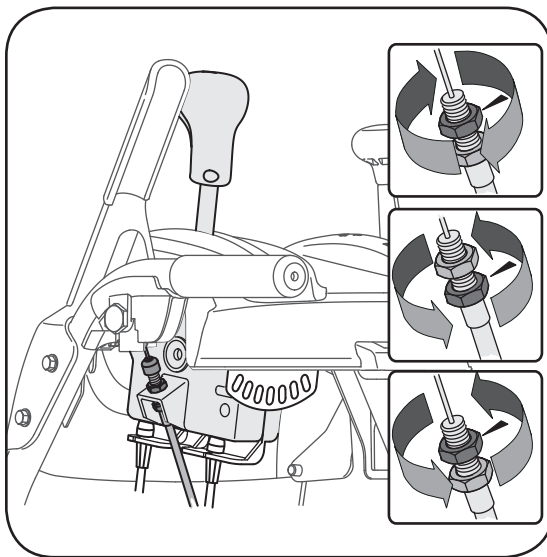

Figure 11
3. Repeat on the other cable adjuster until the chute assembly has full range from left-to-right. See Figure 11.